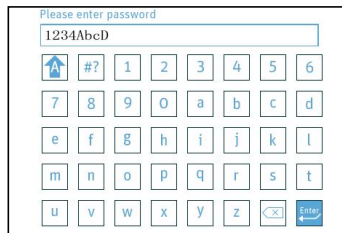
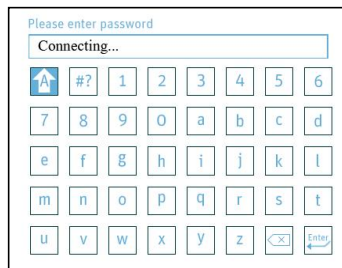

Fig. 16-10
Fig. 16-11
(4) After the desired WiFi network is found, press the **Knob** . Turn **the Knob**  to select this WiFi network. Press **the Knob**  to access the WiFi password input interface. The password is at least 8 characters in length, and can contain uppercase and lowercase English letters and digits 0 to 9, as shown in Fig. 16-10. After the password is entered, turn **the Knob**  until the cursor stays on the **Confirmation Key** . Press **the Knob**  to connect to the WiFi network, as shown in Fig. 16-11. At this moment, the user must not perform any operations, and should wait 0 to 15 seconds for the connection result.